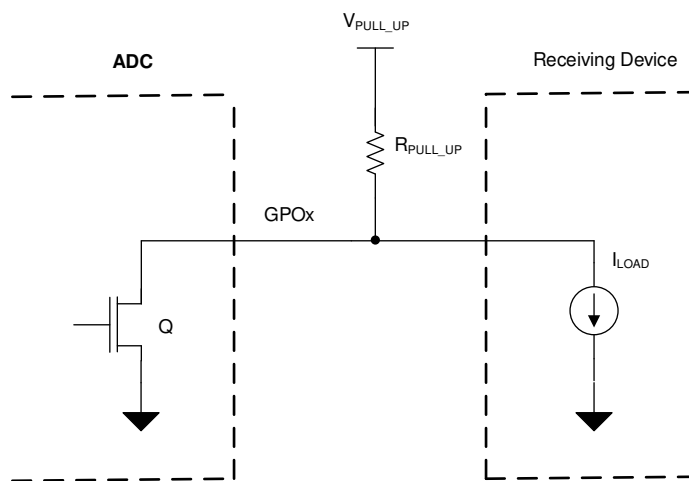

Figure 49. Digital Open-Drain Output
The channels of the TLA2518 can be configured as digital open-drain outputs supporting an output voltage up to 5.5 V. An open-drain output, as shown in Figure 49, consists of an internal FET (Q) connected to ground. The output is idle when not driven by the device, which means Q is off and the pullup resistor, R_{PULL_UP} , connects the GPOx node to the desired output voltage. The output voltage can range anywhere up to 5.5 V, depending on the external voltage that the GPIOx is pulled up to. When the device is driving the output, Q turns on, thus connecting the pullup resistor to ground and bringing the node voltage at GPIOx low.